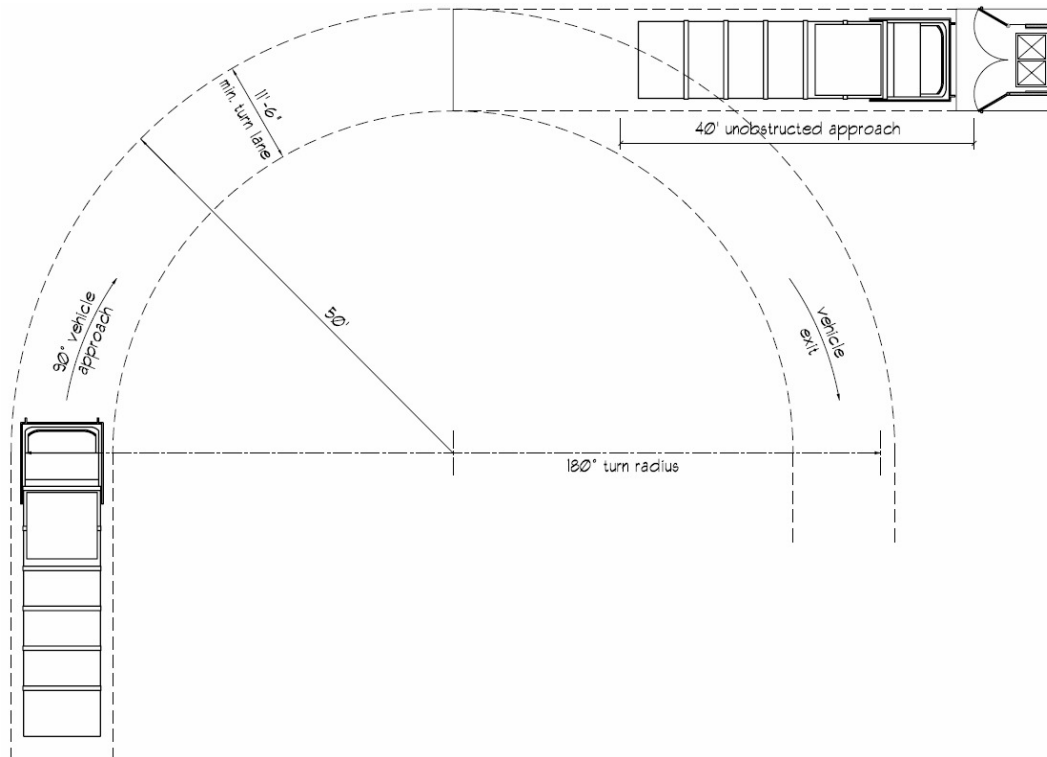

Figure 4
- Provide a minimum vehicle turning radius of 34 feet for the inside wheel and 50 feet for the outside wheel (see **Figure 4**).